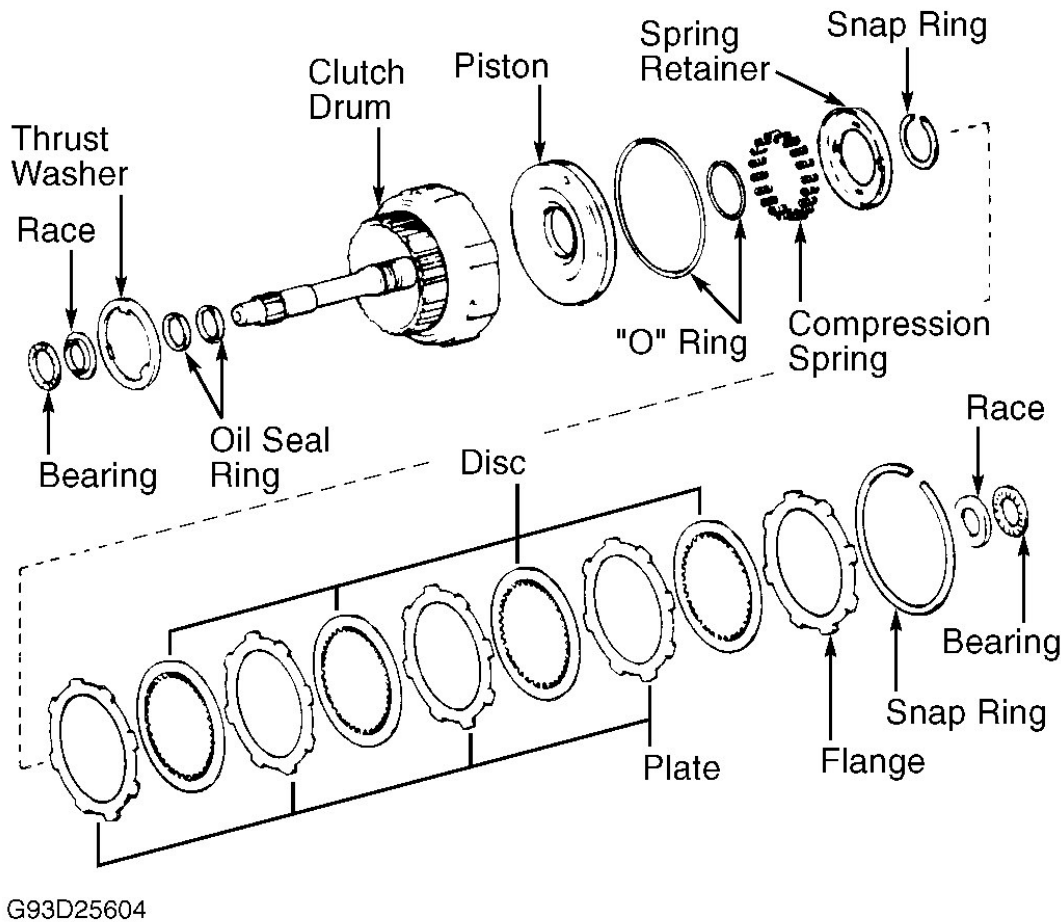

Fig. 29: Exploded View Of Forward Clutch (Typical)
1. Remove thrust washer. Remove thrust bearings and races from both sides of clutch. Remove clutch drum snap ring. Remove flange, discs and plates. Note number and location of components for reassembly reference. See **Fig. 29** . Using appropriate spring compressor, compress spring retainer and return springs.
4. Flanges are available in thicknesses of .110-.142" (2.80-3.60 mm) in .008" (.20 mm) increments. Coat thrust washer, races and bearings with petroleum jelly and install components. See **Fig. 29** .